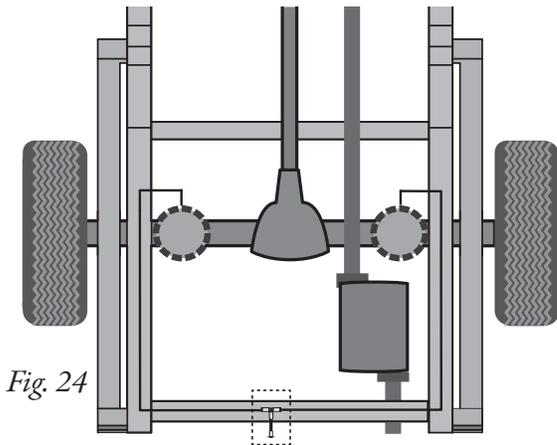
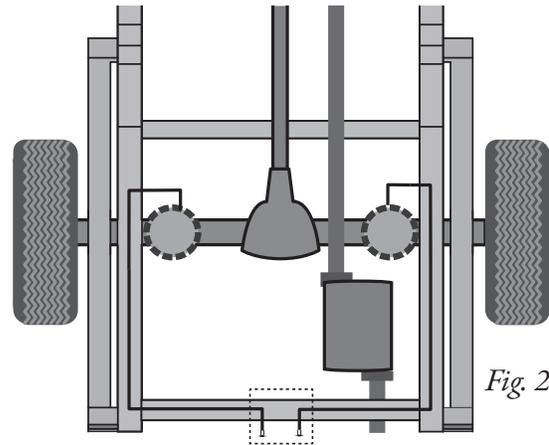

Fig. 24
Fig. 25
1. A single-path air line installation is recommended for vehicles that typically have even weight distribution (Fig. 24). If weight in the vehicle varies from side to side and unequal pressures are needed to level the load, use a dual-path installation. For dual-path air line installations, eliminate the tee fitting (L) and route separate air lines for both air springs (Fig. 25).